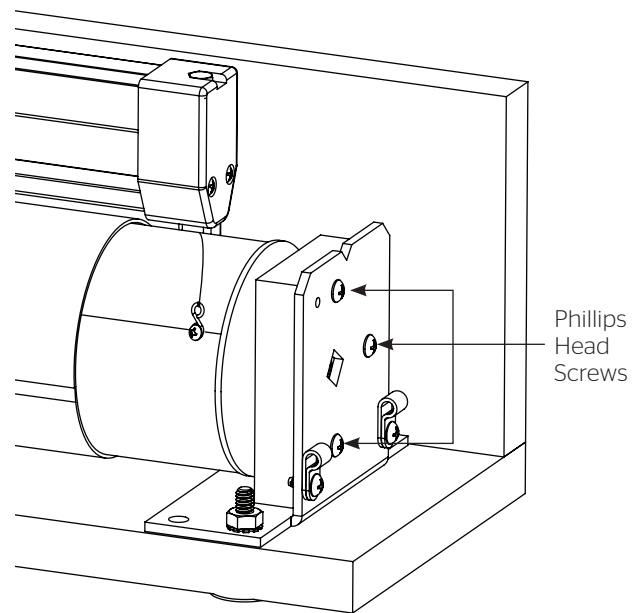

Figure 12
6. Remove the three Phillips head screws from motor end bracket and remove wooden block (Figure 12).